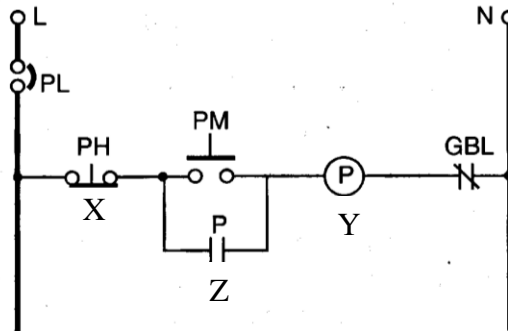

Figure 9
19. Figure 9 shows a single electric control circuit